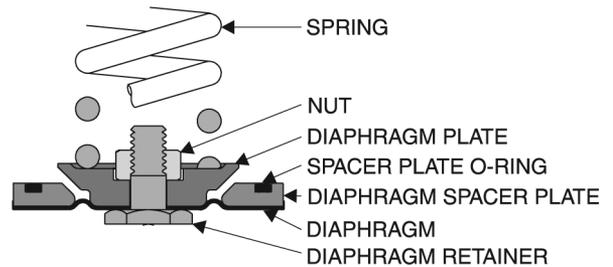

Figure 24
1. Diaphragm Assembly: Install the Pilot Diaphragm with convex side toward Diaphragm Plate and Main Spring (Refer to Figure 24). Tighten nut on the Diaphragm Retainer to approximately 5 to 6 ft-lbs (6.78 - 8.14 n-m) torque.
2. Place Diaphragm Assembly in the pilot body with the diaphragm touching the grooved sealing surface of the pilot body and the O-Ring facing up. (Refer to Figure 24 & Figure 25).